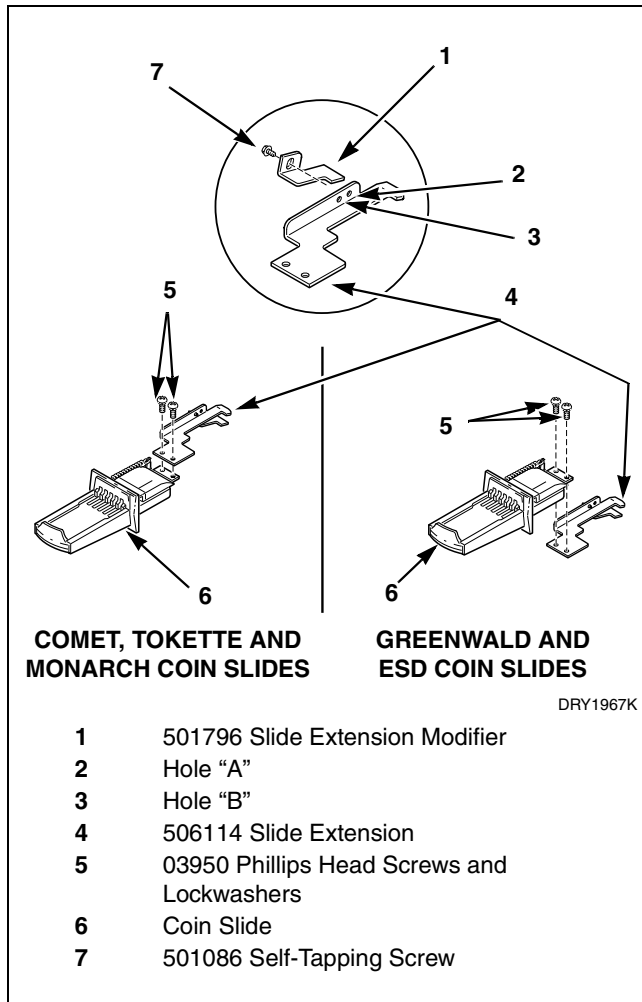

Figure 4
2. **For Comet, Tokette and Monarch coin slides:** Assemble the slide extension, No. 506114, to the top side of the coin slide using the two Phillips head screws and lockwashers, No. 511419, and tighten firmly. Refer to *Figure 4*.
- For Greenwald and ESD coin slides:** Assemble the slide extension, No. 506114, to the bottom side of the coin slide using the two Phillips head screws and lockwashers, No. 511419, and tighten firmly. Refer to *Figure 4*.
- **ESD Coin Slide** – Mount the slide extension modifier, No. 501796, to the underside of the slide extension, No. 506114. Align the hole in the slide extension modifier with hole “A” in the slide extension and install the self-tapping screw, No. 501086, and tighten firmly. Refer to *Figure 4*.
- **GREENWALD Comet Slide, GREENWALD Tokette Slide or MONARCH Coin Slide** – Mount the slide extension modifier, No. 501796, to the underside of the slide extension, No. 506114. Align the hole in the slide extension modifier with hole “B” in the slide extension and install the self-tapping screw, No. 501086, and tighten firmly. Refer to *Figure 4*.